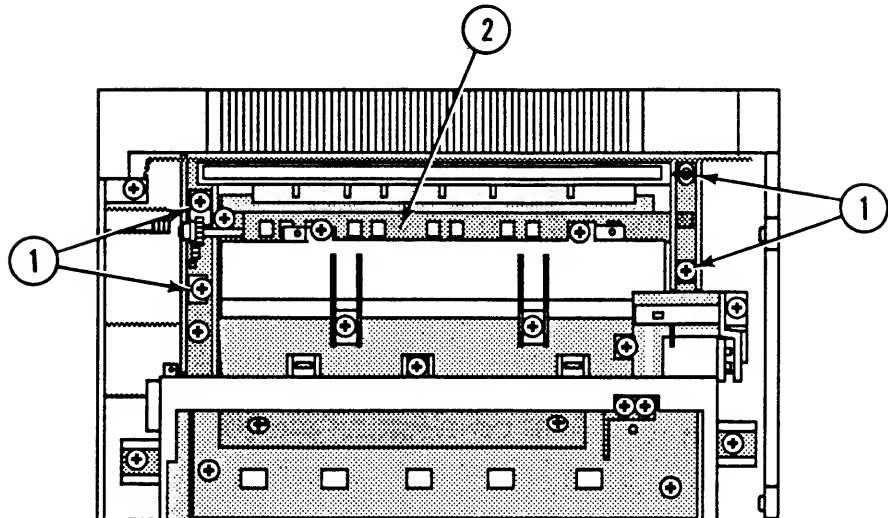

FIGURE 76
6. Remove the four Phillips screws (Figure 76, #1) that secure the delivery assembly (Figure 76, #2) to the top cover. Remove the delivery assembly and lower delivery cover.